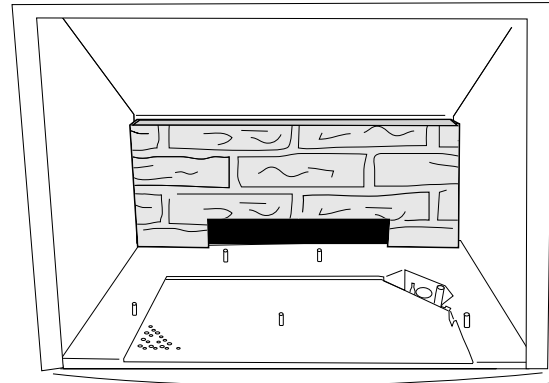

Figure 40. Install Lower Rear Panel
4. **Install the Lower Rear Panel.** Position it up against the back wall, resting on the burner skirt. Fig. 40.